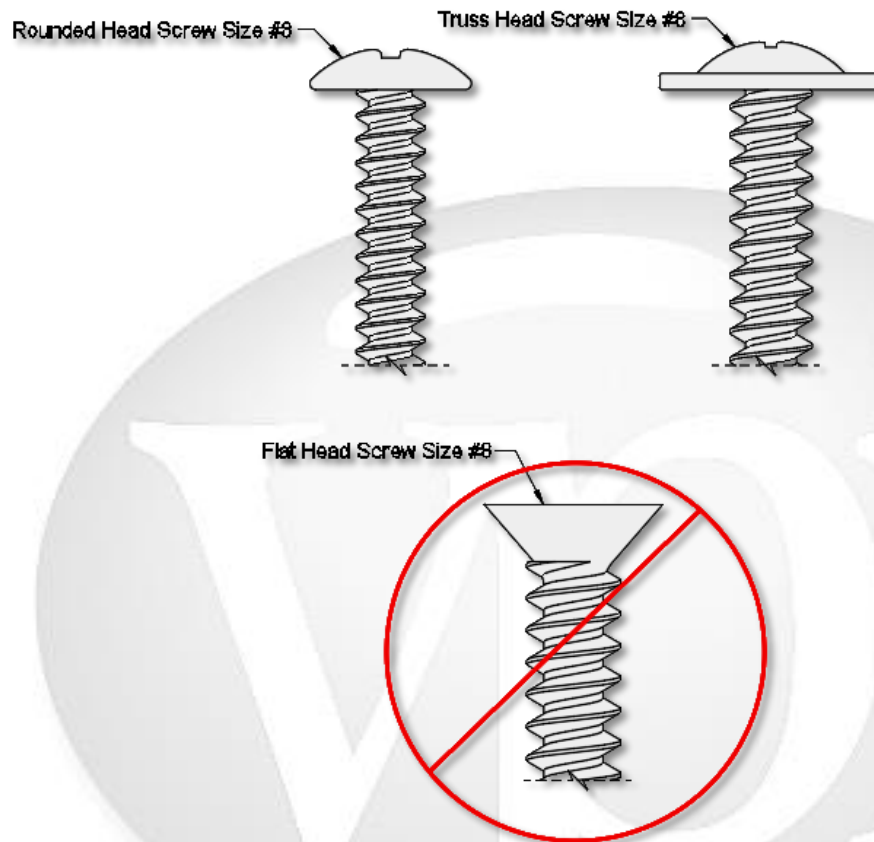

Figure 6: Fastener Selection
- I.  **All fasteners** used to fasten the window to the rough opening must have a rounded head and be constructed from or coated with corrosion resistant material such as, but not limited to, stainless or galvanized steel. Fasteners must be long enough to penetrate a minimum of 1" into structural framing. (See Figure 6)